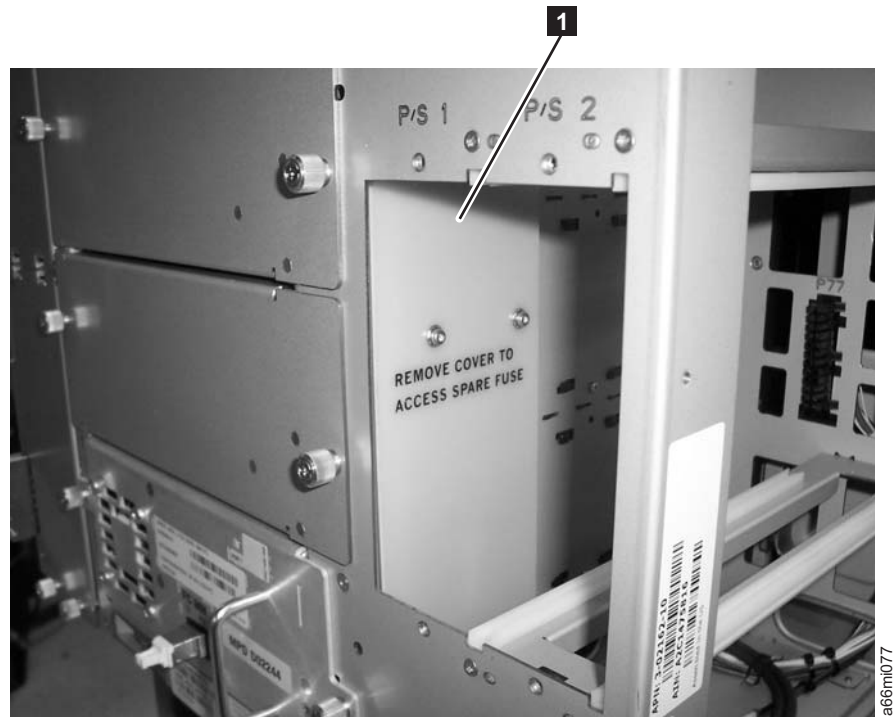

Figure 8-79. Drive power overload fuse cover plate
3. Remove the cover plate (**1** in Figure 8-79) inside the power supply slot.